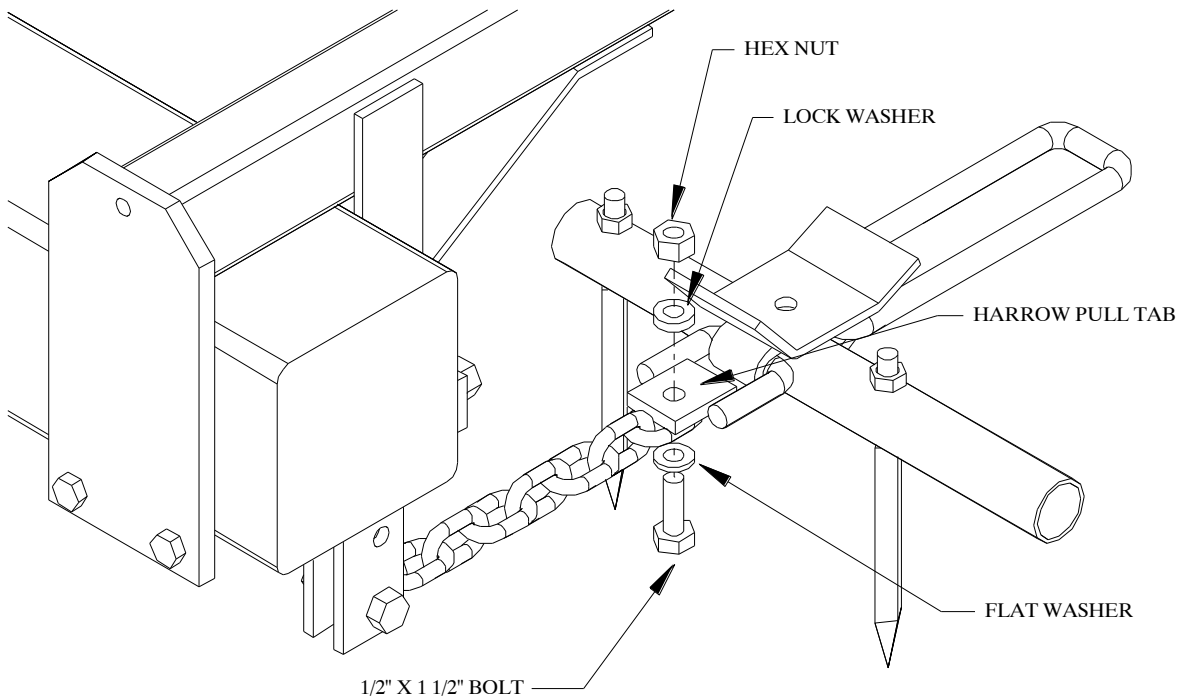

Figure 16
1. Bolt the pull chains to the front tabs on the harrow sections. Refer to Figure 16. Use $\frac{1}{2}$ " x $1\frac{1}{2}$ " bolts, flat washers, lock washers, and hex nuts. The chains should be bolted to the bottom of the pull tabs. Make sure that the chains are not twisted.
1. Bolt the pull chains to the front tabs on the front harrow sections. Refer to Figure 16. Use $\frac{1}{2}$ " x $1\frac{1}{2}$ " bolts, flat washers, lock washers, and hex nuts. The chains should be bolted to the bottom of the pull tabs.
1. Bolt the pull chains to the front tabs on the harrow sections. Refer to Figures 16 and 19. Use $\frac{1}{2}$ " x $1 \frac{1}{2}$ " bolts, flat washers, lock washers, and hex nuts. The chains should be bolted to the bottom of the pull tabs.